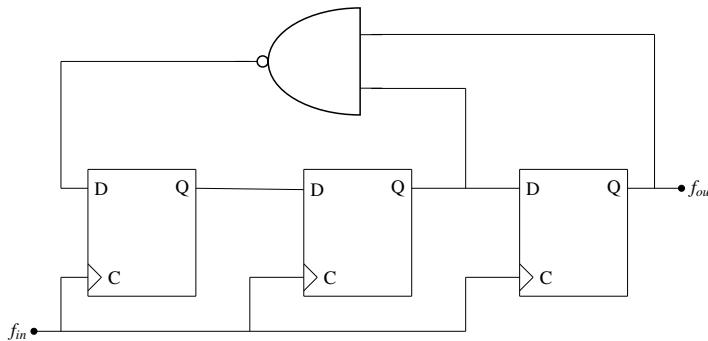

Fig. 5.24
24. Which of the following statements is true about digital circuits shown in Fig. 5.24?